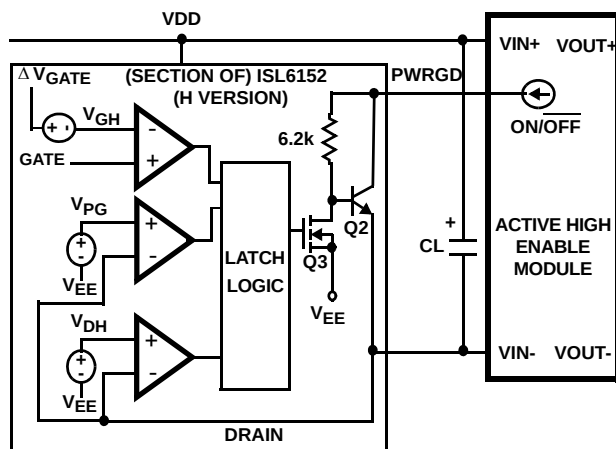

FIGURE 37. ACTIVE HIGH ENABLE MODULE
**ISL6152** (H version; Figure 37): Under normal conditions (DRAIN voltage -  $V_{EE} < V_{PG}$  and  $\Delta V_{GATE} - V_{GATE} < V_{GH}$ ), the Q3 DMOS will be on, shorting the bottom of the internal resistor to  $V_{EE}$ , turning Q2 off. If the pull-up current from the external module is high enough, the voltage drop across the 6.2k $\Omega$  resistor will look like a logic high (relative to DRAIN). Note that the module is only referenced to DRAIN, not  $V_{EE}$  (but under normal conditions, the FET is on, and the DRAIN and  $V_{EE}$  are almost the same voltage).